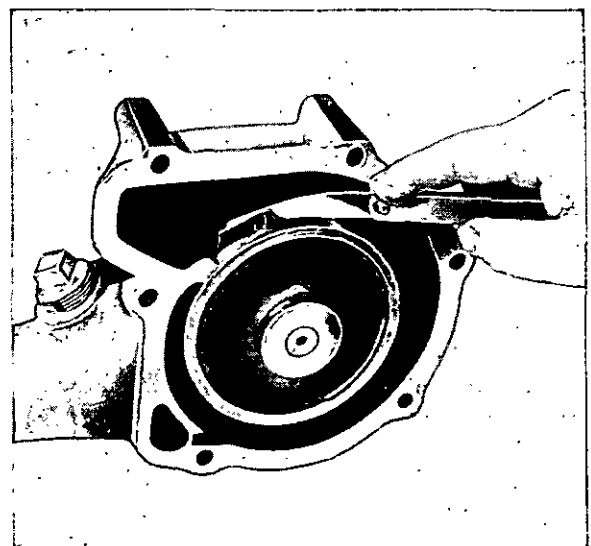

Fig. L.7.
8. Press impeller onto shaft, so that a clearance of 0.012/0.035 in (0,30/0,89 mm) is maintained between impeller vanes and pump body (Fig. L.7).